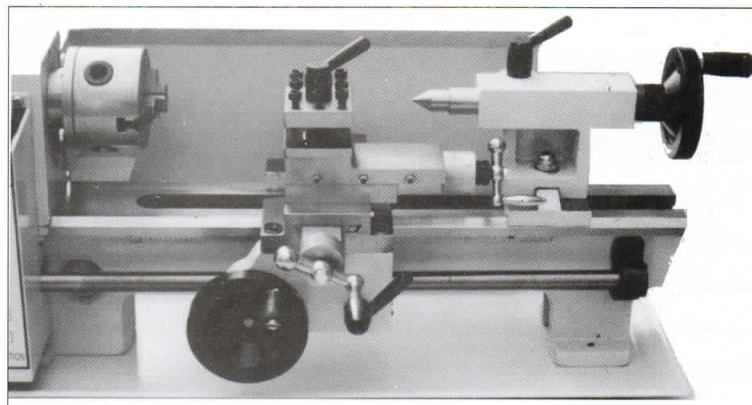

Fig. 5 Adjustment Of Saddle , Cross Slide And Compound Rest
6. Check the compound rest crank and the cross feeding crank and see if they work properly. If they are too tight or too loose, turn the adjusting screws located at both sides. (Fig. 5)